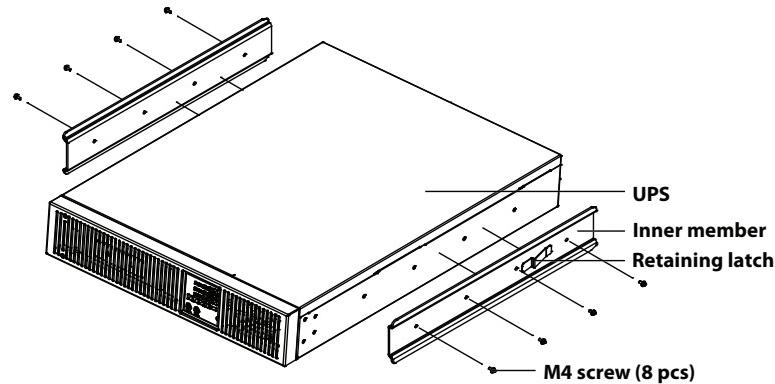

Figure 12: Installing inner members
- Fasten inner members (pulled from the bracket assemblies in Step 2) to both sides of the UPS with eight M4 screws provided in this kit. Make sure that the retaining latch is near the rear of the UPS as shown in Figure 12.